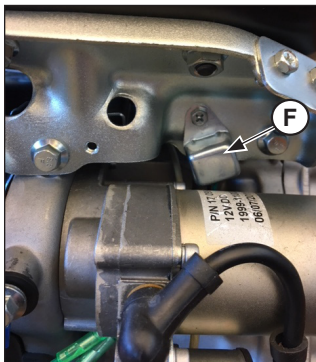

Figure 6. Mount New Oil Alert Control.
10. Mount new oil alert control (F) above starter with new screw, routing wires behind starter. See Figure 6.